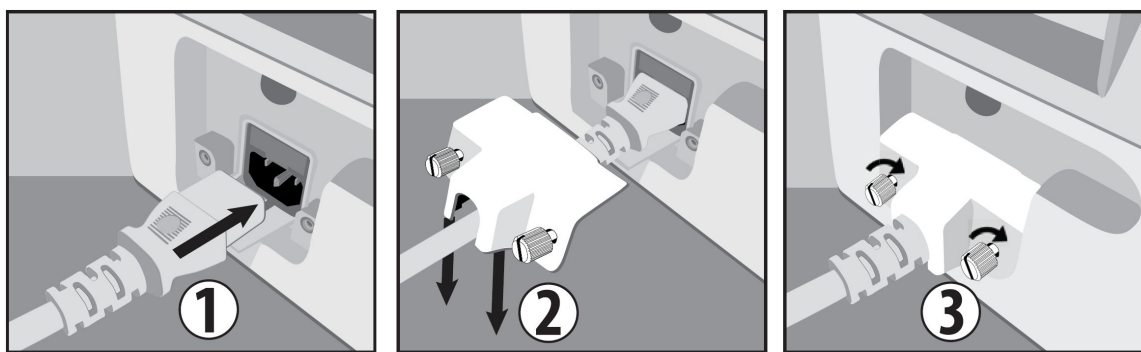

Figure 3-5: HemoSphere Alta advanced monitor power entry cover - installation steps
1. If the power entry cover is already installed, remove the two screws (image 3, Figure 3-5 on page 84) that attach the power entry cover to the rear panel of the monitor.
2. Connect the detachable power supply cord. Ensure that the plug is seated securely. (image 1, Figure 3-5 on page 84)
3. Attach the power cord entry cover over the plug by routing the power cord through the cover opening and then pressing the cover and gasket up against the rear panel of the monitor, aligning the two screw holes. (image 1, Figure 3-5 on page 84)
4. Reinsert the screws to fasten the cover onto the monitor. (image 3, Figure 3-5 on page 84)